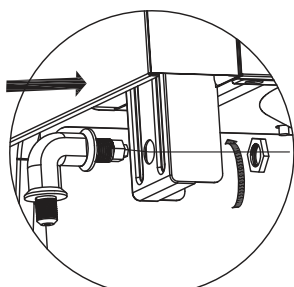

Figure 3
- Attach the Left Cabinet Bottom Panel (33) and Right Cabinet Bottom Panel (28) onto each side of the Cart Bottom Panel (12) with two screws (A) each side as shown in Figure 3.
- Install on the side burner valve onto the side burner valve support as in Figure 3.